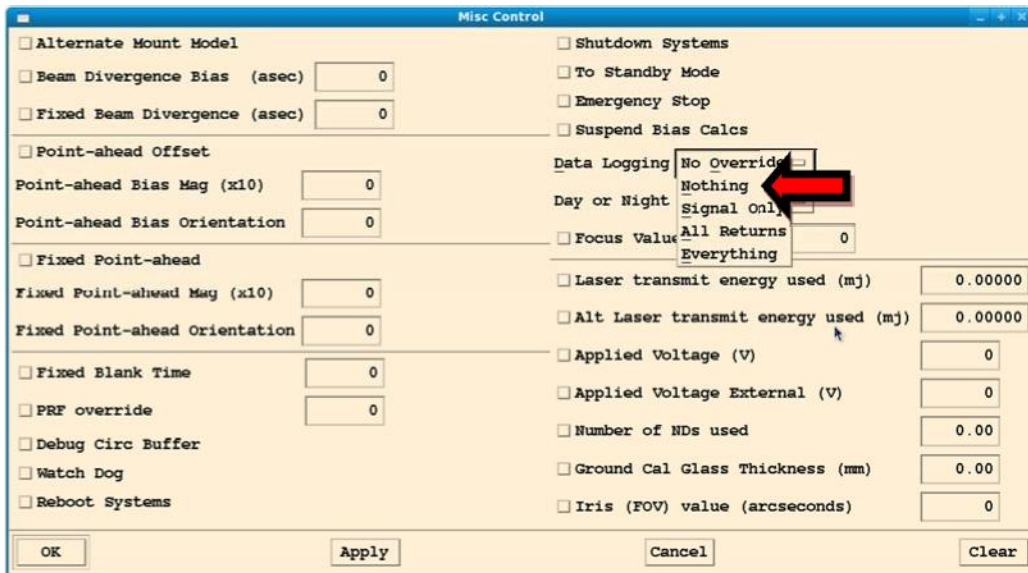

Figure 4-4: Misc Control menu
6. Turn off Data Logging – Open *Control* => *Misc*, go to *Data Logging* and set to *Nothing* (Figure 4-4).